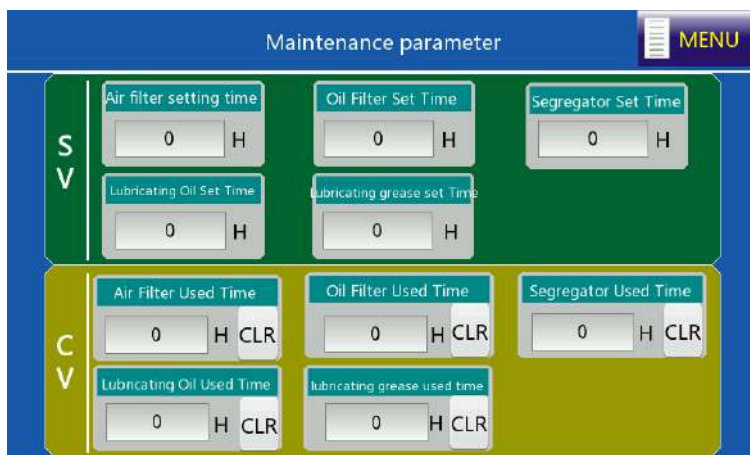

Figure 4-11 Maintenance parameter interface
Step 6 Choose **Maintenance parameter** in the menu. The interface shown in Figure 4-11 is displayed.